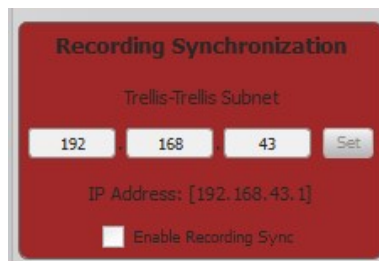

Figure 3-38 Trellis File Save – Recording Synchronization cable error
- If the processor synchronization is interrupted (for example, due to the Processor Sync Cable becoming disconnected), the processors will stop sending data; the Recording Synchronization panel will change color to red, as shown in Figure 3-38; a dialog box will appear notifying the user that recording should be stopped; Trellis will emit a continuous warning beep to notify users who may not be attending at the File Save interface; the two-processor icon in the upper-right of the window will change to indicate a lost processor synchronization connection; the power light on each processor will flash alternately red then orange; and the processor front end port indicator LEDs will turn red to indicate a recording error. To re-enable two-processor synchronization, close all instances of Trellis, power down both processors, and check the Processor Sync Cable connections. If the physical connections appear to be intact, follow the initialization instructions presented earlier.